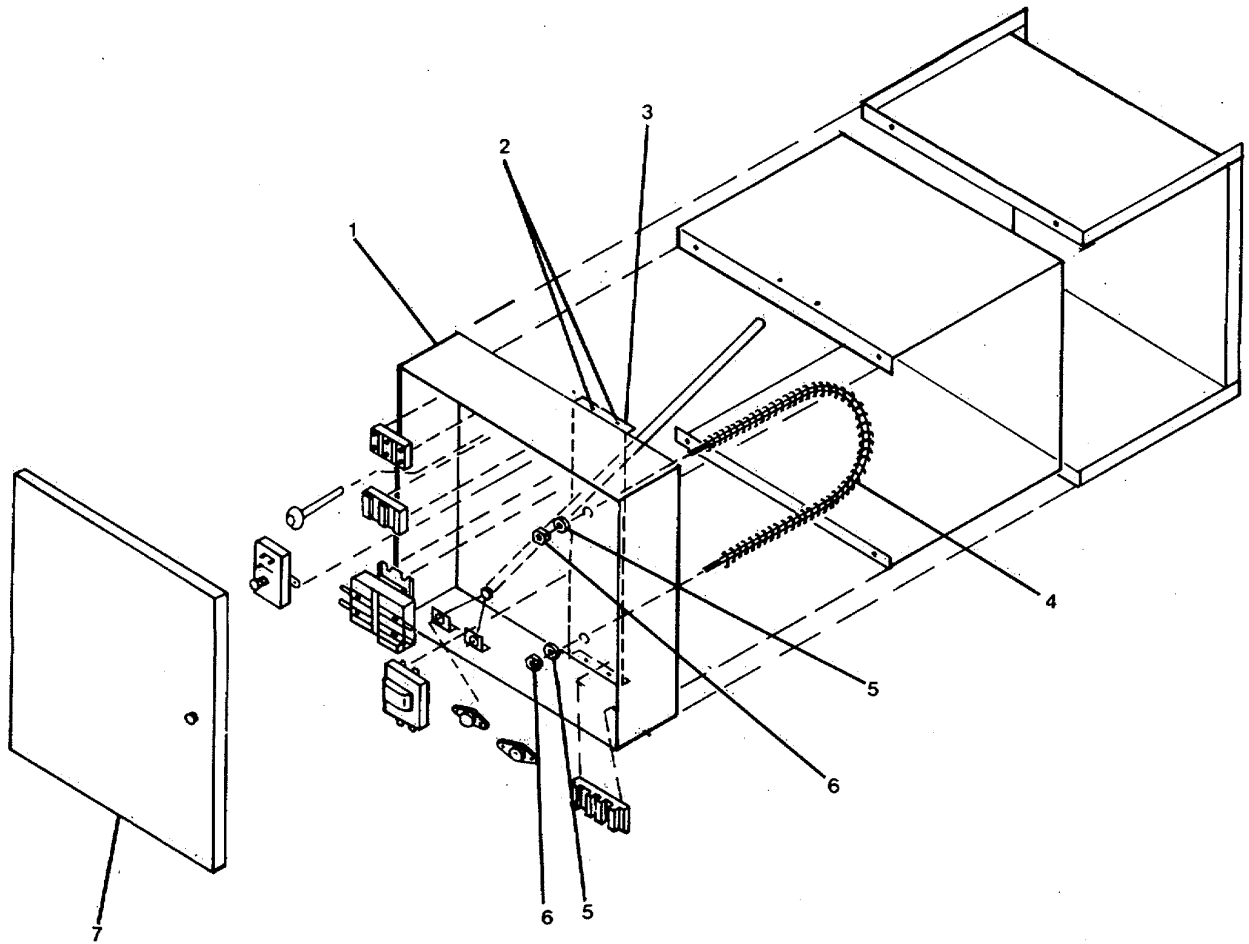

Figure 2-11. Duct Heater (Ducts #8, #13, and #15).
- l. Secure line connections to heating element (4) with terminal washers (5) and nuts (6).
- m. Close heater front cover (7).
- (1) Unlock power panel and switch circuit breaker ON.
- (2) Refer to TM 55-1905-223-10 for details on control settings.
- (3) Remove "Out of Service - Do Not Operate" tag from circuit breaker.
**2-21. Repair Heater, Duct Type, Stationary (Ducts #8, #13, and #15). (FIGURE 2-11)**